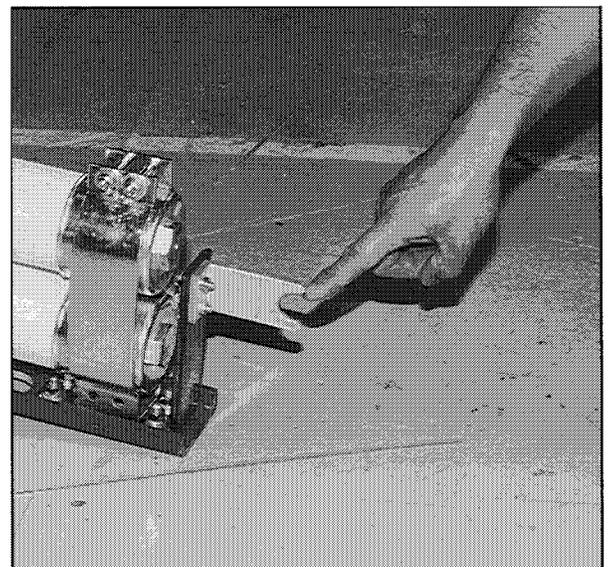

Fig. 52 Checking Stab on Power Fuse Cartridge
- Check the condition of the back stab terminals on the cartridge for any signs of damage or discoloration (Fig. 52). If there is any excessive build-up of dirt or other foreign material, wipr clean and relubricate with a light coat of Toshiba B8 grease, making sure that no grease gets